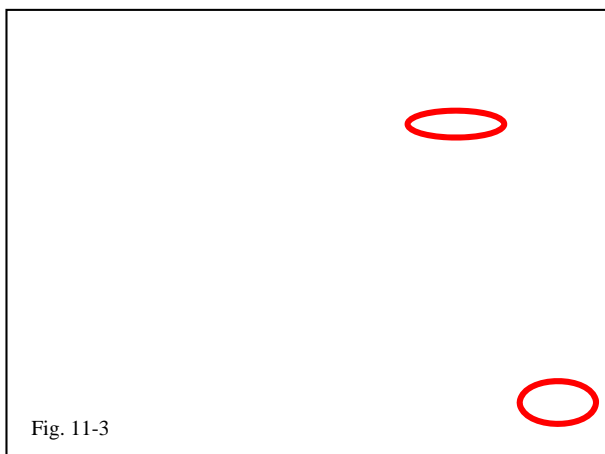

Fig. 11-3
- (f) Select “**Tire Pressure Monitor**” then click the green arrow located on the bottom right (Fig. 11-3).